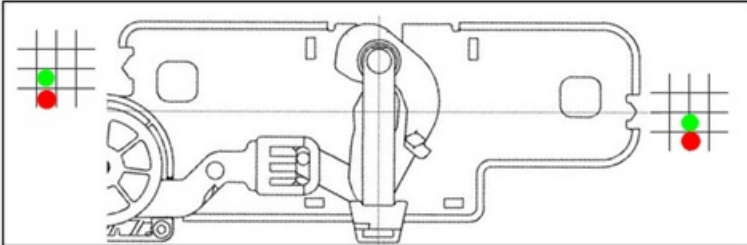

Figure 1
4. Record the position, using attached strikerlatchmarkup.pdf, of the powered striker in relation to the grid stamped into the rear panel (see Figure 1 for example)